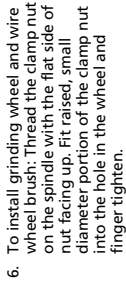

Figure 4
7. To install abrasive mop disc: Thread the clamp nut on the spindle with the flat side of nut facing down. Finger tighten (see Figure 4).